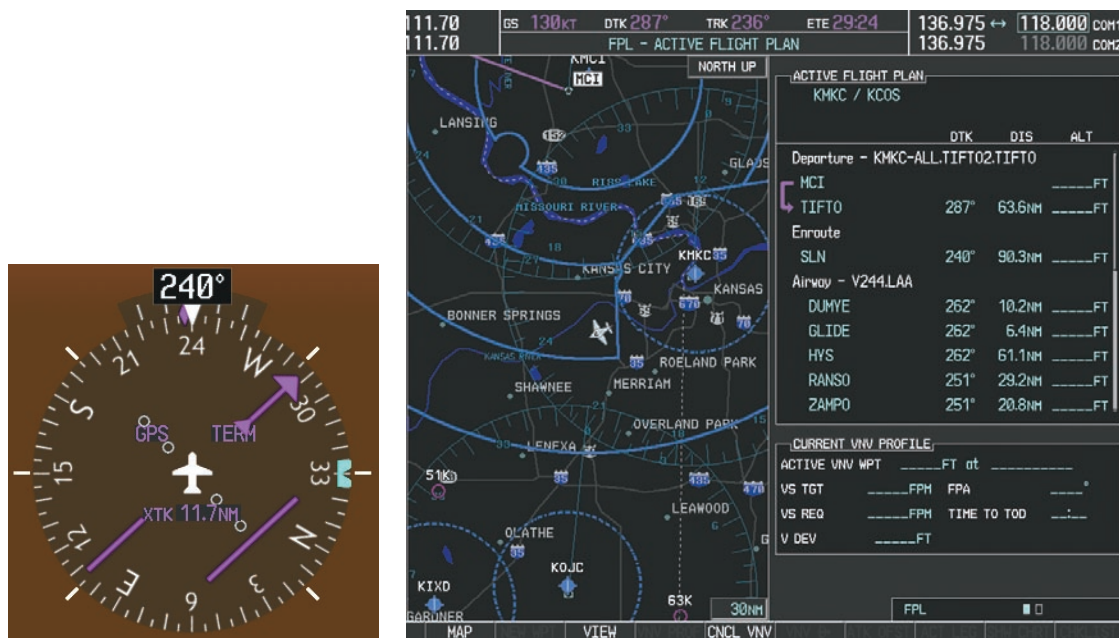

Figure 5-103 Assigned Heading of 240°
- 1) Prior to departure, the TIFTO2 departure, the airways, and the DBRY1 arrival at KCOS are loaded. See the Procedures section for loading departures and arrivals. Note the magenta arrow in Figure 5-103 indicating the active departure leg.
- 2) Figure 5-103 shows the aircraft on the assigned heading of 240°. 'TERM' (Terminal) is the current CDI flight phase displayed on the HSI indicating 1.0 nm CDI scaling.